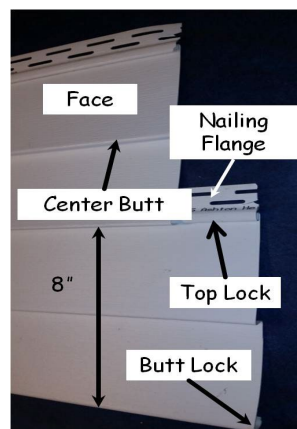

Figure 11-21. Siding Nomenclature.
- As shown in Figure 11-21, the butt lock of each course locks into the top lock of the course below.
4. On the 8s: The visible portion of each siding course is 8" high (see Figure 11-21). For each new course, snap the butt lock onto the top lock of the previous course along the entire piece. Nail the ends and middle, then measure up from the BOTTOM of the first course to the BOTTOM of the course being installed. Each measurement should be a multiple of 8 (e.g. 8", 16", 24", 32"). At each nail position, before nailing, check the measurement and adjust up or down to an even multiple of 8, and finish nailing the entire piece. Recheck as necessary and adjust the position of the nailing flange and re-nail, if required. Small adjustments can be made by tapping the nail head up or down as required. When installing the first and fifth courses, be sure the top of the siding (the nail flange) just touches the quality line previously snapped (see Section 11.1.6.4) on the wall.